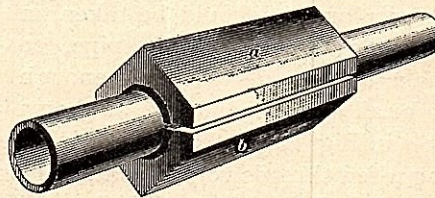

FIG. 23
**33.** Friction clamps made as shown in Fig. 23 are used for fixing a pipe in the pipe vise. The clamps  $a$  and  $b$  are made to fit the jaws of an ordinary vise, and the curve is formed to fit a standard size of pipe. The curve is lined with rubber or some other soft body. The pipe-vise jaws compress  $a$  and  $b$  and the pipe then cannot slip. The clamps are made long so as
his own friction clamps. A common iron-pipe coupling is sawed into equal parts *a* and *b*, and then lined with thick sheet-lead pieces *c*, *d*. They grip the pipe like *a* and *b*, in Fig. 23, but with heavy pressure from the pipe vise these clamps are liable to spread. Powdered rosin is usually sprinkled in these clamps to prevent the pipe slipping. This can be washed off the pipe with kerosene oil after the threads are cut. If the pipes are nickel plated, care must be taken to prevent their slipping in the clamps; otherwise ugly rings will be scratched around the pipe, which indicates careless workmanship.